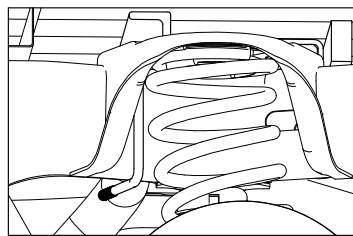
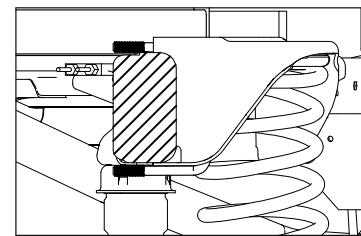

Figure D1: View of driver side suspension spring (Tire not shown)
Figure D2: Cutaway view of suspension spring area looking toward the rear of the truck
1. **Place the U-bolts.** Place one U-bolt in front of each coil spring around the pickup frame as shown in Figure D1. To ease installation of the side plates, start with the U-bolts pulled back from the frame so that the ends of U-bolts are flush with the wall of the tubular frame, see Figure D2.